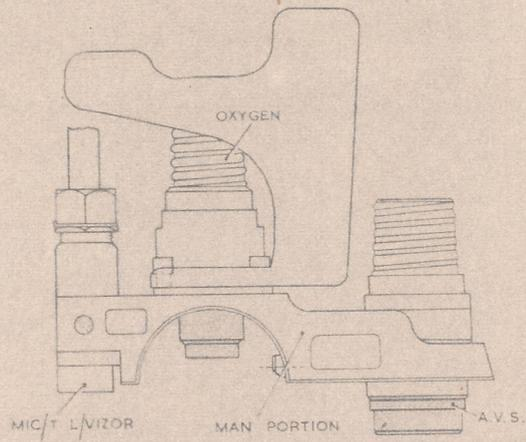

Fig. 11. Lubrication of Type MSC3 man portion
20. In order to ensure easy and satisfactory connection between the man and other portions of the P.E.C., it is necessary to maintain a very thin film of grease XG-315 (Ref. No. 34B/9100519) on the outside diameters of the moving and fixed sleeves of the A.V.S. and oxygen self-sealing valves in the man portion (shown shaded in fig. 11). It is emphasised that this silicone grease film is to be kept to the minimum.